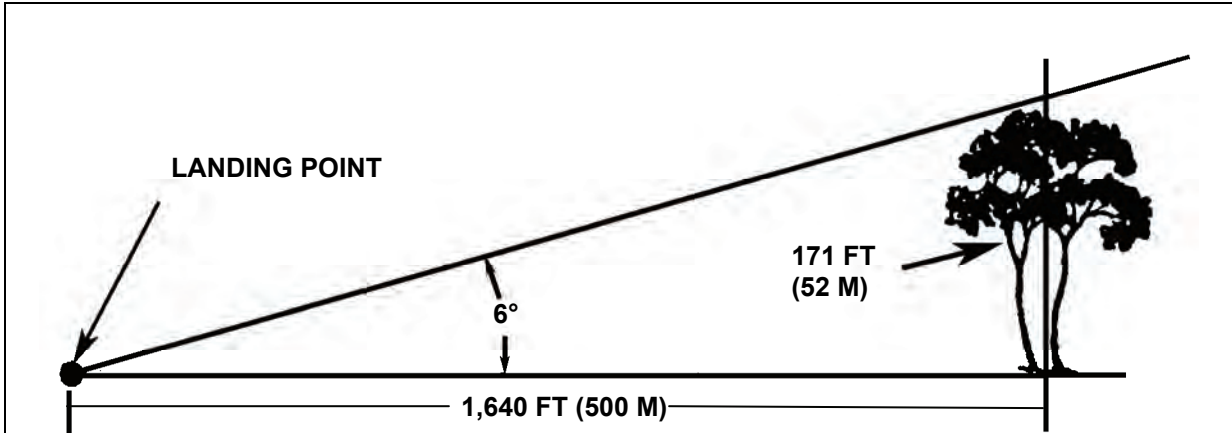

Figure 4-4. Maximum Angle of Approach (Daylight)
- Day Approach.** Within the day approach and exit path, the maximum obstruction angle should not exceed 6 degrees measured from the landing point center to a distance of 500 meters (1,640 feet) (Figure 4-4). The maximum obstacle height at 500 meters is 52 meters (171 feet). The 10:1 ratio (a field expedient formula) is that for every meter of vertical obstacle, you must have 10 meters from the center of the landing point to the obstacle. That is, a landing point center must be 200 meters from a 20-meter (66-foot) tree if the helicopter must approach or depart directly over the tree.